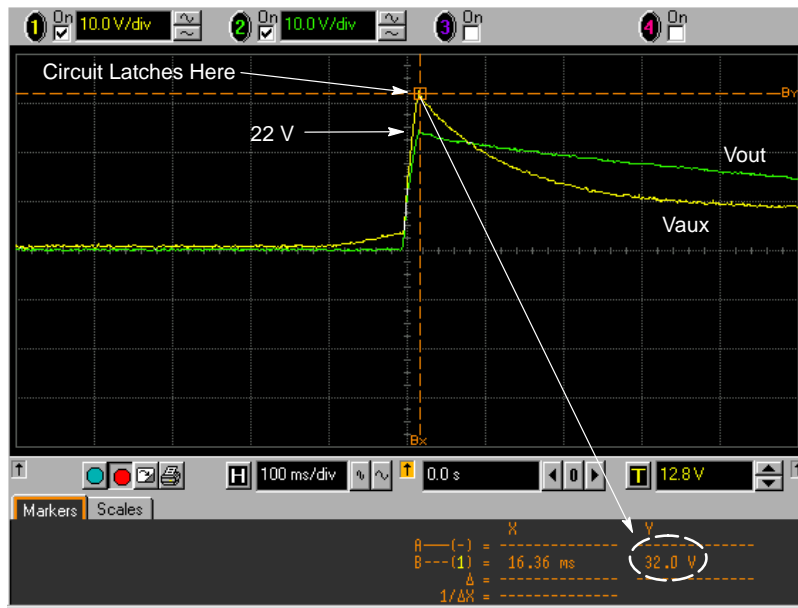

Figure 7. The circuit latches when Vaux grows-up to 32 V which corresponds to Vout = 22 V.
4. Power the converter with the maximum input voltage and short the optocoupler LED: Vaux grows-up until the IC latches-off. Capture a one-shot graph as on Figure 7, note Vout max and Vaux max. Vout has gone, the controller is latched. If not, reduce Rlimit and retry step 4 until it latches-off. To quickly reset the controller, do a brief short between Vcc and ground.